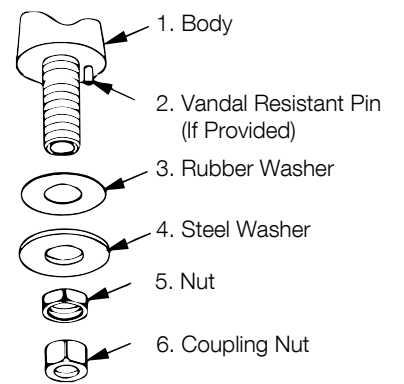
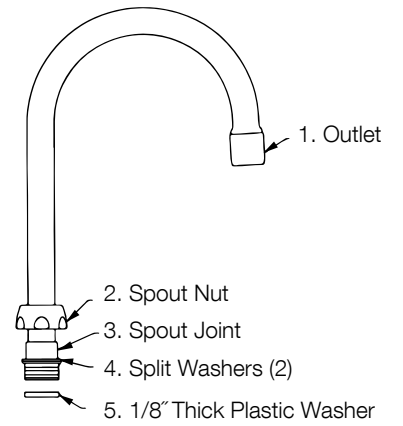

Figure 2
Figure 3
1. Apply plumber's putty or Rubber Washer (item 3) to underside of faucet body (item 1).
2. Place body shank through hole in deck. If installing a vandal resistant fitting, align Vandal Resistant Pin (item 2) with pre-drilled pinhole in deck. Assemble Steel Washer and Nut (items 4 and 5) to shank and tighten securely.
3. Flush supply line. If using a bullnose supply tube, attach to shank with Coupling Nut (item 6) and tighten securely. Flexible supply hoses do not require the Coupling Nut.
4. Assemble spout as shown in Figure 2. For Rigid Spout installation, place 1/8" Thick Plastic Washer into spout base bore and discard plastic Split Washers.
5. Attach spout to fitting and tighten Spout Nut (Figure 2, item 2). If outlet is pre-installed, remove outlet and flush fitting for one minute. Replace outlet.
1. If Flanges (Figure 3, item 1) are included, place them over supply piping or shanks.
2. Attach Supply Arms (item 2) to threaded supply piping or shanks using pipe sealant.
4. Install Gaskets (item 3) and tighten Supply Arms to fitting with a crescent wrench. Make sure fitting is level.
5. Assemble spout as shown in Figure 2 for Rigid Spout installation, place 1/8" Thick Plastic Washer into spout base bore and discard plastic Split Washers.
6. Attach spout to fitting and tighten Spout Nut (Figure 2, item 2). If outlet is pre-installed, remove outlet and flush fitting for one minute. Replace outlet.